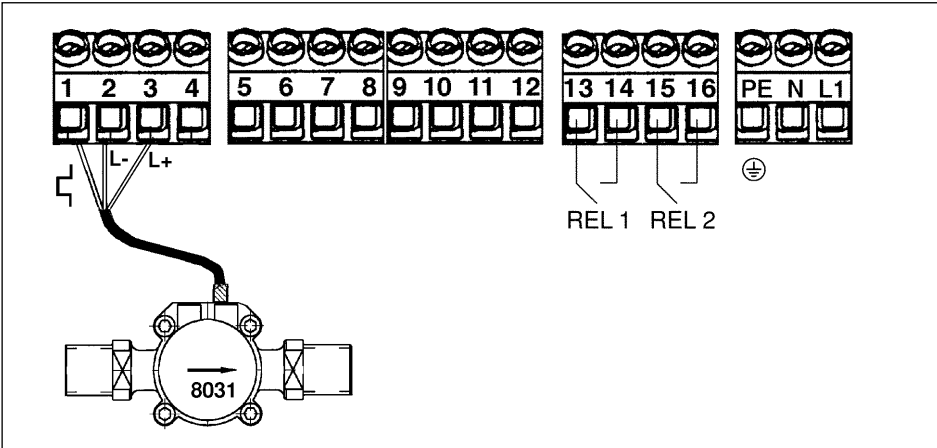

Fig. 3.11 Connection of the flow sensor type 8031 to the 8025 panel version
3.7.2 Connection of flow sensor type 8031 "Low Flow" (cf. fig. 3.11)